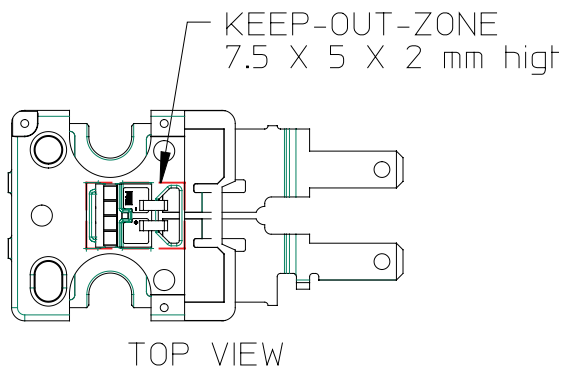

Figure 3a.
1. The Keep-Out-Zone defines an area where the LED die, phosphor, ceramic and ribbon bonds are located. Handling equipment, tools, fingers, and any other objects should avoid making contact with the module assembly in this defined area. See Figure 3a.